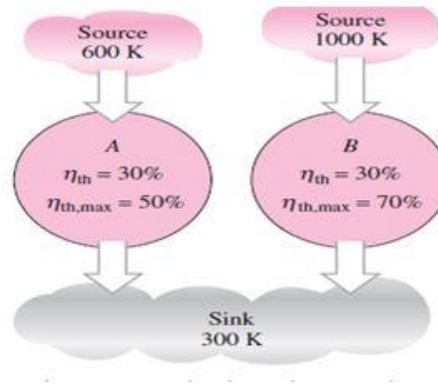

Fig.5.6 - Two heat engines that have the same thermal efficiency
- ▶ Consider a piston-cylinder arrangement (closed system) in which the fluid expanding reversibly from initial state of  $p_1, V_1, T_1$  to final atmospheric state of  $p_0, V_0, T_0$ . During this process, fluid produces work  $W_{fluid}$  and rejects heat  $Q$  to atmosphere. To find the maximum work done, we will assume that the heat  $Q$  rejected by the system is utilized in reversible Carnot engine producing work  $W_{engine}$  and rejecting part of heat  $Q_0$  to atmosphere at temperature  $T_0$ , as shown in Fig.5.6 - Two heat engines that have the same thermal efficiency practically this would be possible by having infinite number of reversible engines arranged in parallel, each one receiving heat at a different constant temperature but each one rejecting heat at atmospheric temperature  $T_0$ .
- ▶ Consider two heat engines, both having a thermal efficiency of 30 %, as shown in Fig.5.6 - Two heat engines that have the same thermal efficiency. One of the engines (engine A) is supplied with heat from a source at 600 K, and the other one (engine B) from a source at 1000 K. Both engines reject heat to a medium at 300 K. At first glance, both engines seem to convert to work the same fraction of heat that they receive; thus they are performing equally well. When we take a second look at these engines in light of the second law of thermodynamics, however, we see a totally different picture. These engines, at best, can perform as reversible engines, in which case their efficiencies would be,